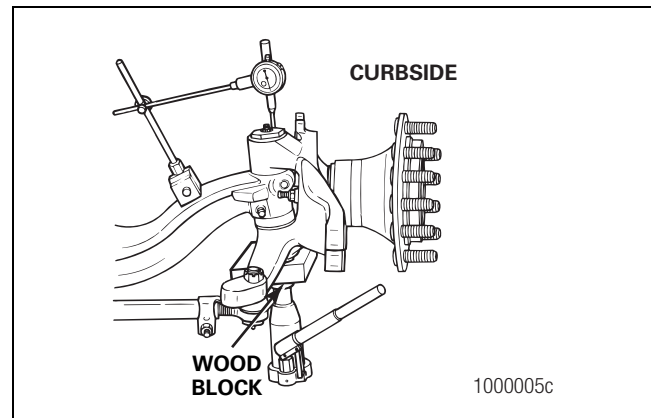

Figure 3.4
- Place a jack and a wood block, with a hole that allows clearance for the lower king pin grease fitting, under the lower king pin cap area. Figure 3.4.